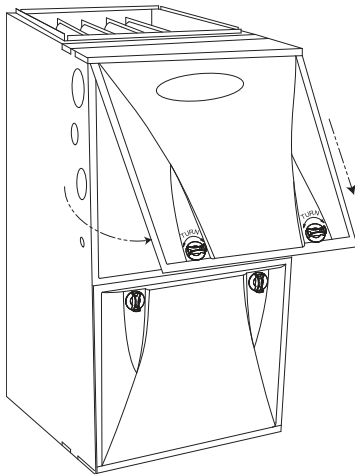

Fig. 10 – Remove Main Furnace Door (Upflow Configuration)
4. Remove the main furnace door (see Fig. 10).
4. Remove main furnace door (see Fig. 10).